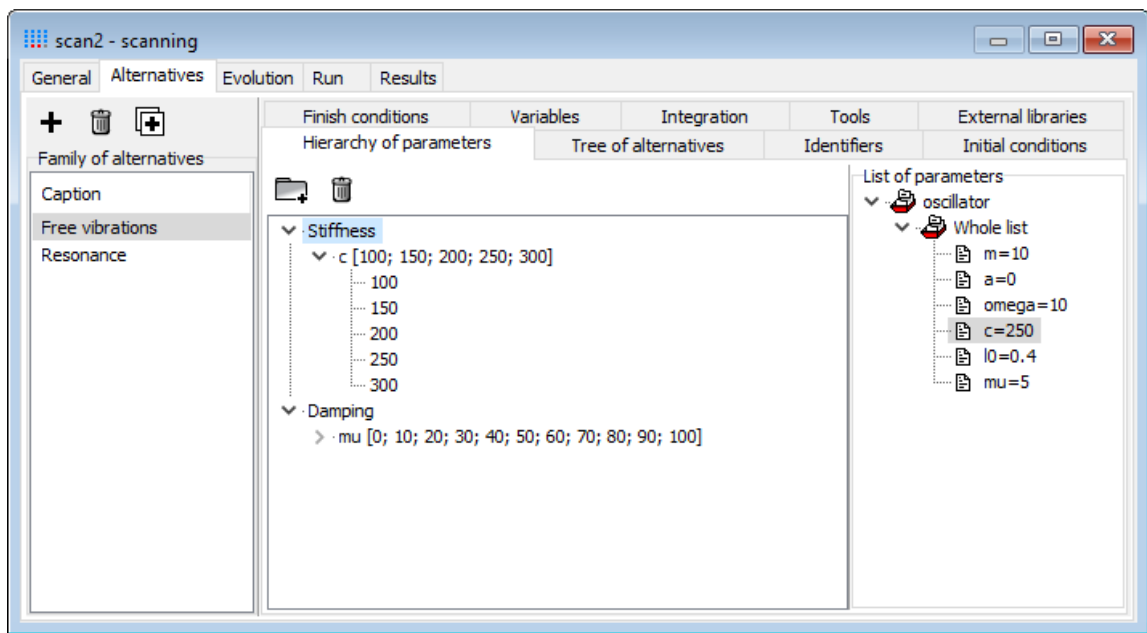
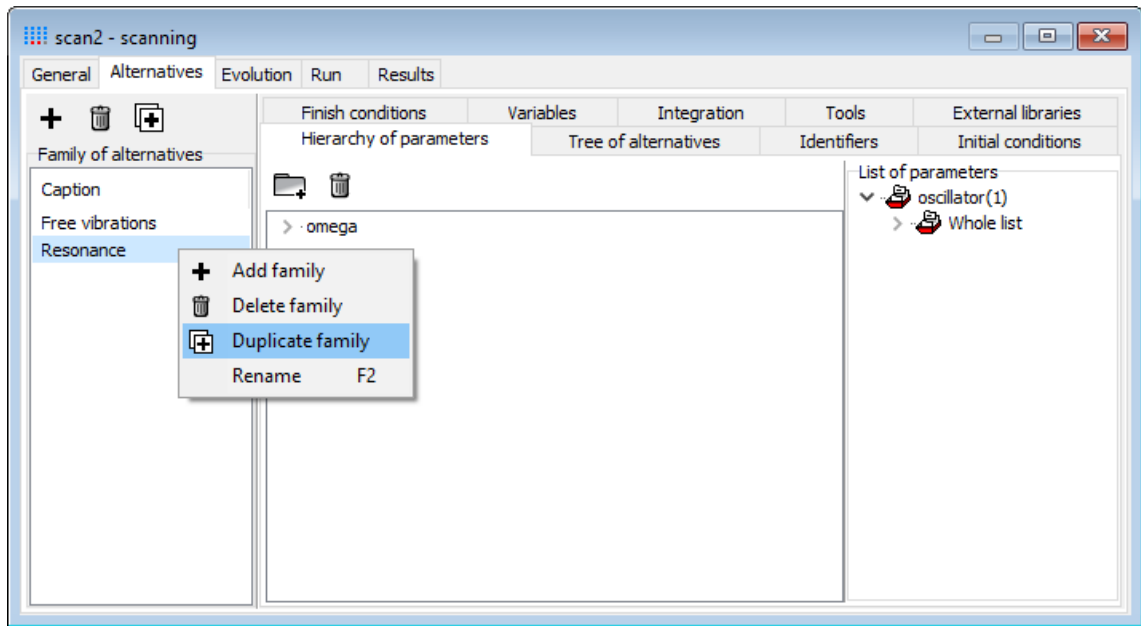
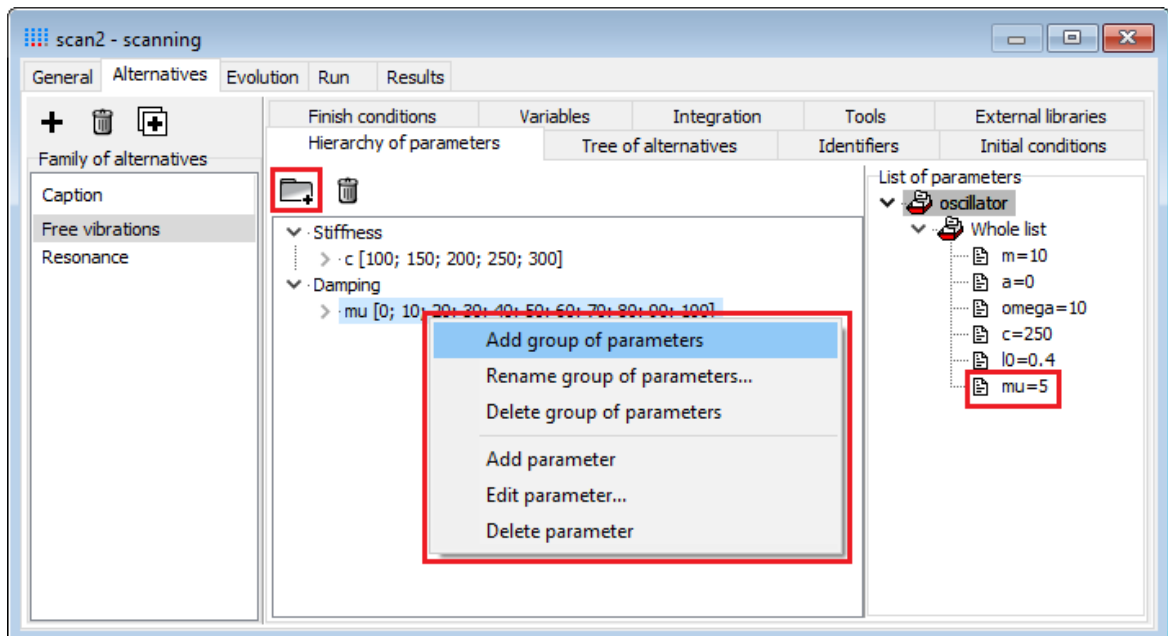

Figure 1.2. Scanning: hierarchy of parameters
Figure 1.8. Family of alternatives: context menu
Figure 1.9. Hierarchy of parameters
Let us consider basic features of the scanning how it realized in UM. The researcher can unite several models within on scanning project, see Figure 1.2. Set of numerical experiments is generated automatically. For each model the researcher describes default values of parameters, initial conditions, problem-specific parameters (road vehicles, railway vehicles, and flexible bodies), finish conditions, parameters of numerical method and list of variables that will be saved for each numerical experiment.
- The researcher adds all necessary models to the project and set all parameters for them, see Figure 1.2.
A tab for description design parameters is shown in Figure 1.2. **Family of alternatives** is a group of alternatives generated by one model. Use **Add/Delete/Duplicate family** buttons or context menu (see Figure 1.8, Figure 1.9) to set up the project. It is necessary to describe hierarchy of parameters for each family. Hierarchy of parameters can be compare to nested loops. It means that for each value of upper level all values of lower level will be tabulated. Within a level, the parameters are changed jointly; number of iterations is determined by number of values of the first parameter at the level. If the number of iterations in the first parameter is less than ones of other parameters then final extra values are ignored, else the values of other parameters are taken over again.
You can use tool bar or context menu to add/remove levels of hierarchy or model parameters, see Figure 1.9. Double click onto any parameter from the **List of parameters** adds that parameter to current level of hierarchy. For example, the hierarchy in Figure 1.9. consists of two levels: **Stiffness** and **Damping**. **Stiffness** level consists of one parameter **c** having values [100, 150, 200, 250, 300]. **Damping** level consists of one parameter **mu** with values [0, 10, 20, 30..100].